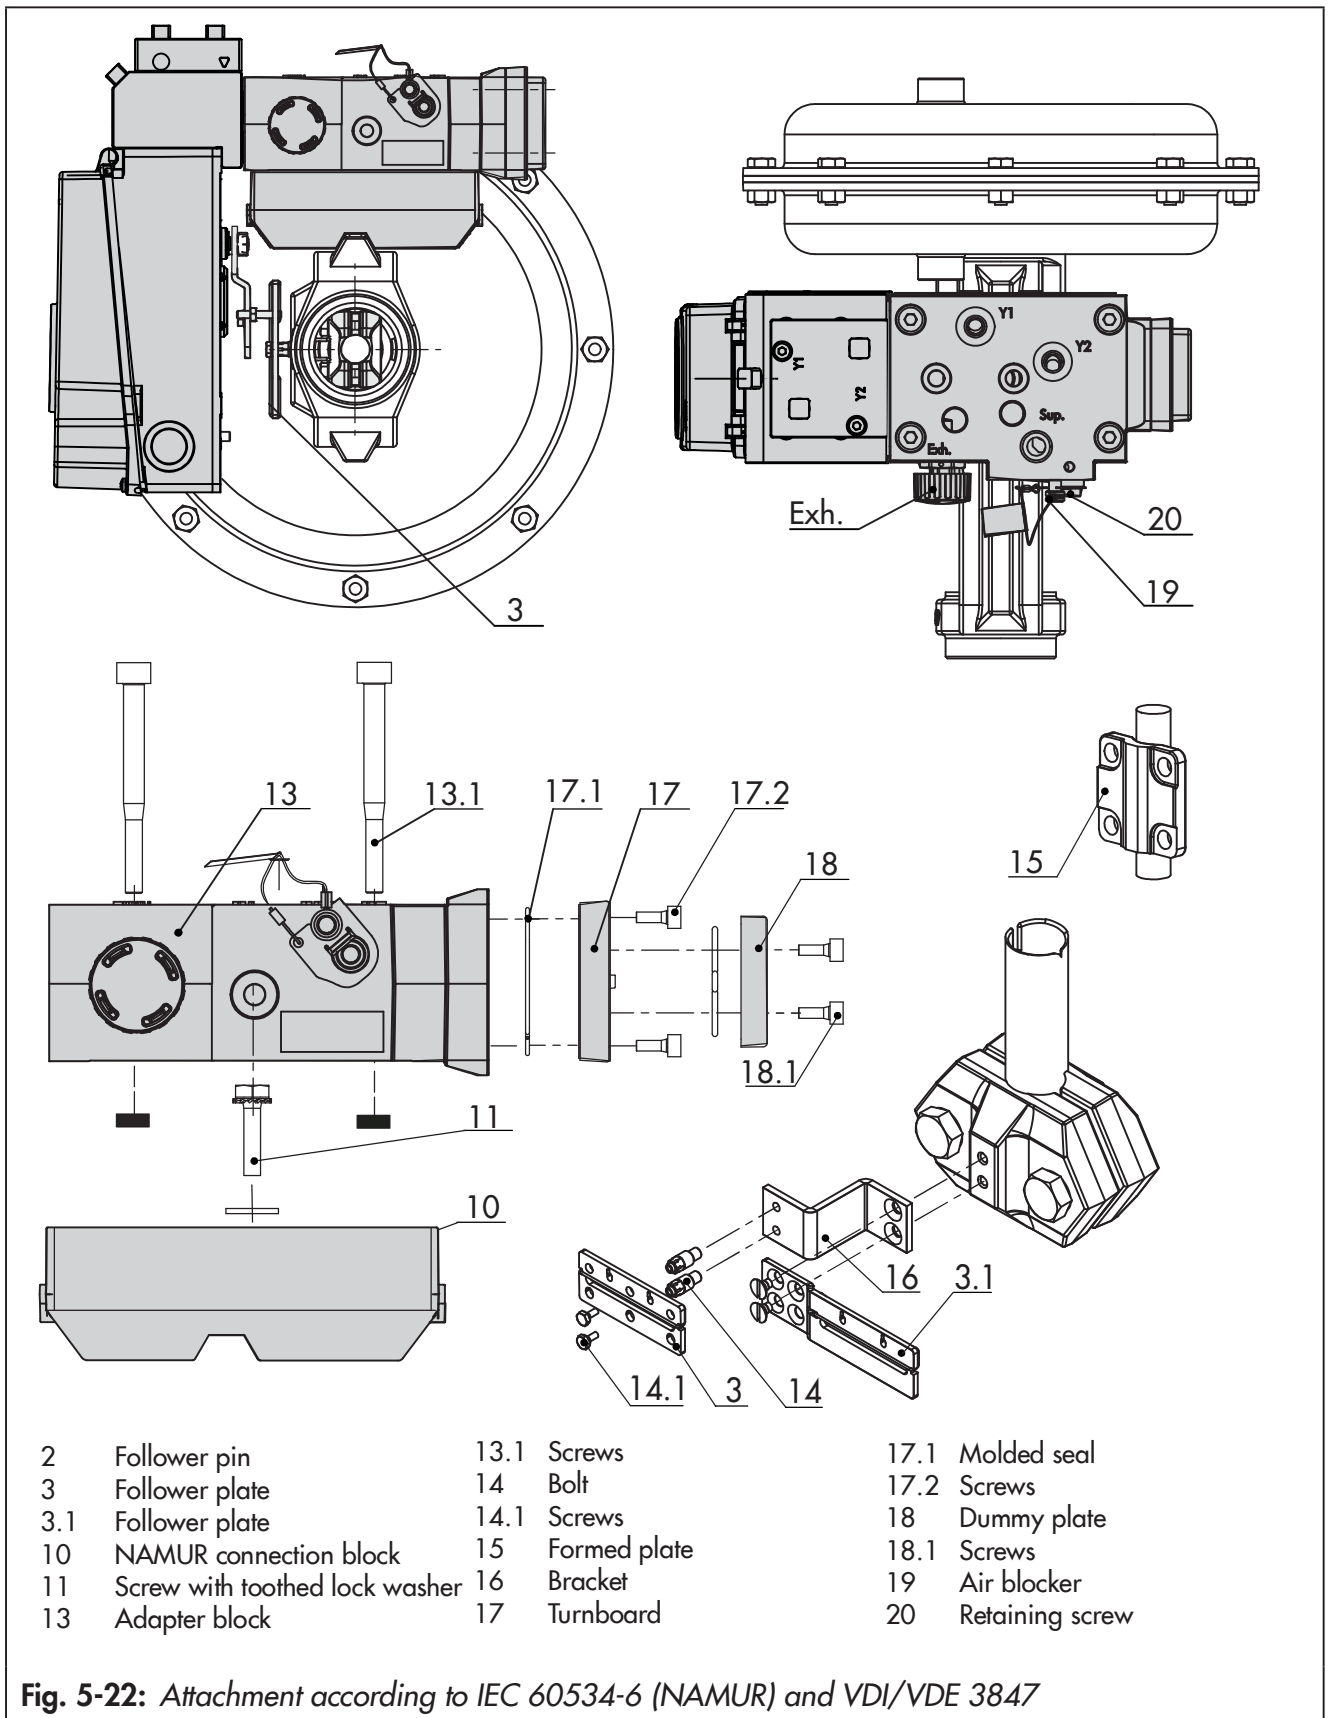

Fig. 5-22: Attachment according to IEC 60534-6 (NAMUR) and VDI/VDE 3847
- ➔ See Fig. 5-22
1. **Series 240 Valves, actuator size up to 1400-60 cm2:** Screw the two bolts (14) to the bracket of the stem connector or directly to the stem connector (depending on the version), place the follower plate (3) on top and use the screws (14.1) to fasten it.